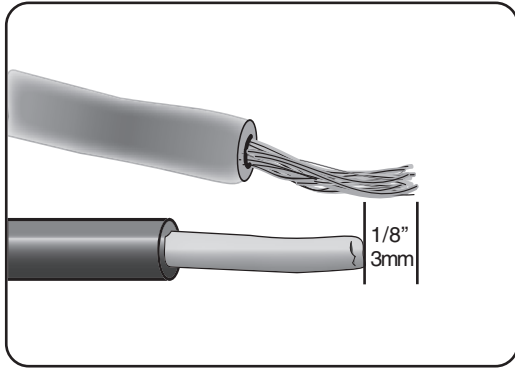

Figure 26
- Extend the dishwasher's stranded wires 1/8" (3mm) beyond the power supply cable's solid wires, as shown in Figure 26.